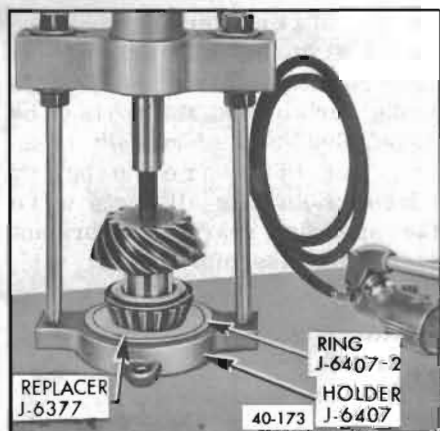

Figure 40-173—Installing Rear Pinion Bearing
3. Place correct shim (as determined in supar. b) against head of pinion and install rear pinion bearing using Replacer J-6377 and Holder J-6407 with Ring J-6407-2 in a press or as shown in Figure 40-173.